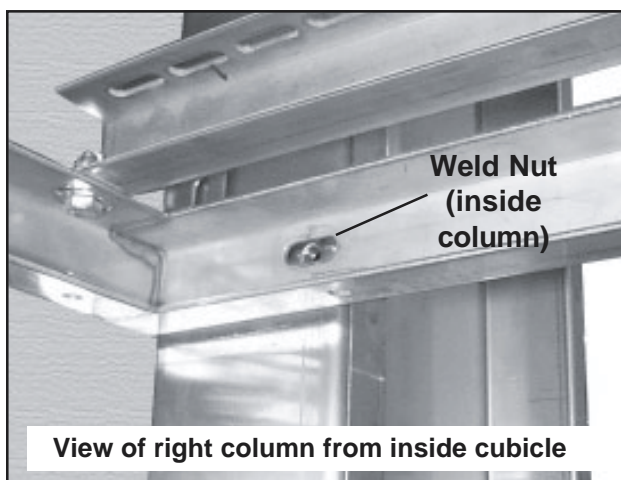

Figure 1. Weld Nut Inside Column
1. Find the weld nut on the inside surface of each column (Figure 1).
10. Insert a screw into the weld nut in each column (Figure 1). **Note:** Leave these two screws slightly loose for later installation of the rear door support rail.